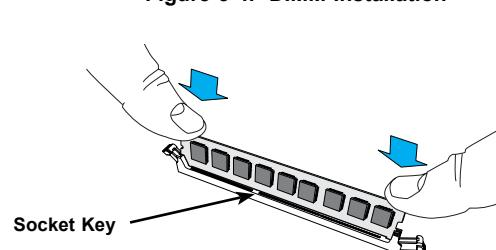

Figure 5-4. DIMM Installation
2. Insert each DIMM module vertically into its slot. Pay attention to the notch along the bottom of the module to avoid installing incorrectly (see Figure 5-4).